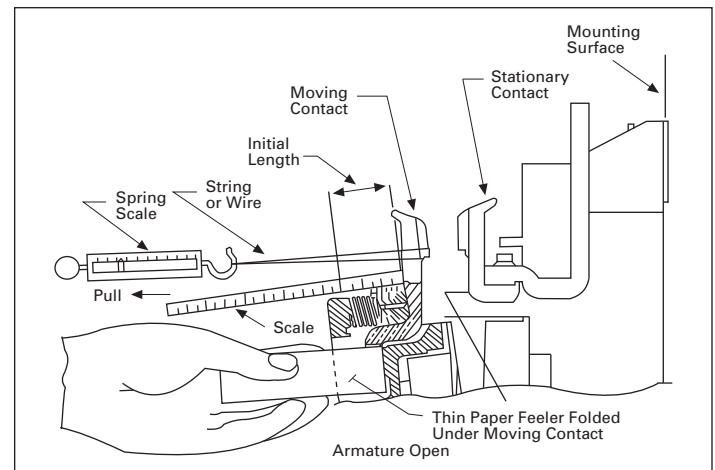

Figure 5. Initial contact force and spring length measurement
The initial contact overtravel, with new contacts, is 5/32 to 13/64 inches and is measured with the power off as shown in **Figures 5** and **6**. Contact replacement is necessary when the overtravel on any pole has been reduced to 3/64 inch. The contacts must be replaced on all poles at the same time. Contact replacement is then achieved by the following procedure with the power off:
- Initial force 7.5 to 8.5 pounds (**Figure 5**)
After turning off the power, contact forces per pole may be measured by exerting a measured pull until the paper is allowed to move using the method shown in **Figures 5** and **6**.